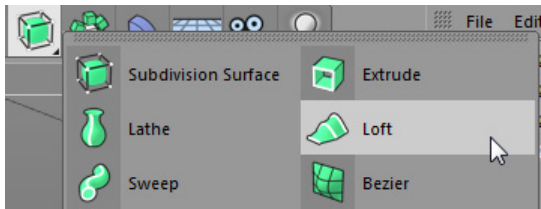

Figure 2-39 *Choosing Loft from the flyout*
14. Press and hold the left mouse button on the **Subdivision Surface** tool in the Command Palette; a flyout is displayed. Choose the **Loft** tool from the flyout, as shown in Figure 2-39; *Loft* is added to the Object Manager.